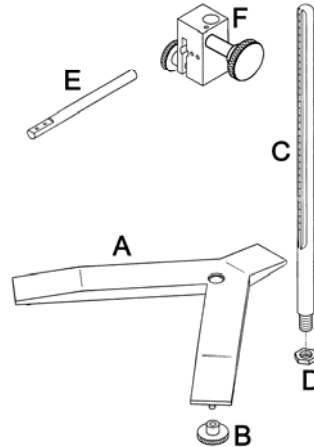

Fig. 5 Set-up for the viscometer base
- Remove all of the parts from the carry-case. Note the figure below (fig 5).
- Correctly place the three height adjustable knobs (B) on the Y-shaped base(A).
- Mount the fastening rod (C) with the holding screw (D) at the base (A).
- Attach the nut (F) to the fastening rod. The viscometer should be connected to the nut (F) by means of its rod (E).